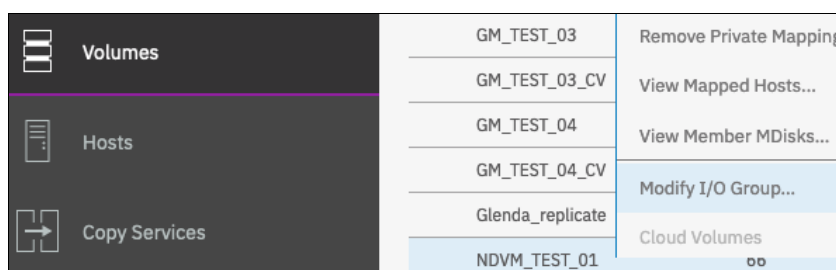

Figure 6-66 Modify I/O Group menu item
1. To initiate the process, select the volumes, right-click, and then select **Modify I/O Group**, or select the **Actions** drop-down menu, as shown in Figure 6-66.